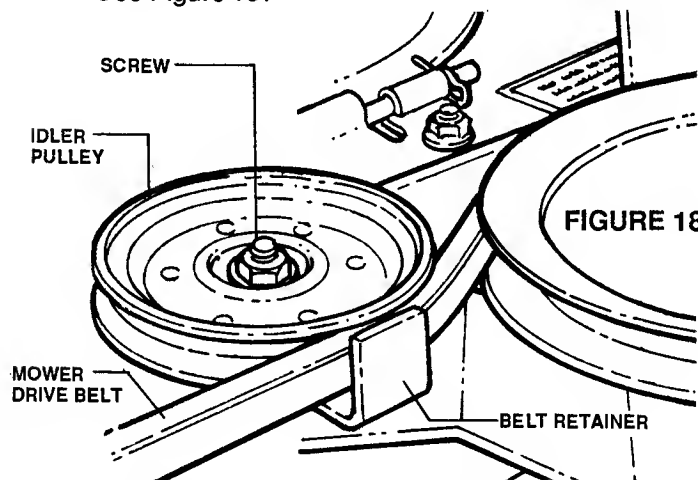

FIGURE 18
2. Loosen pulley screw on **IDLER PULLEY** until **BELT RETAINER** can be moved away from belt. See Figure 18.